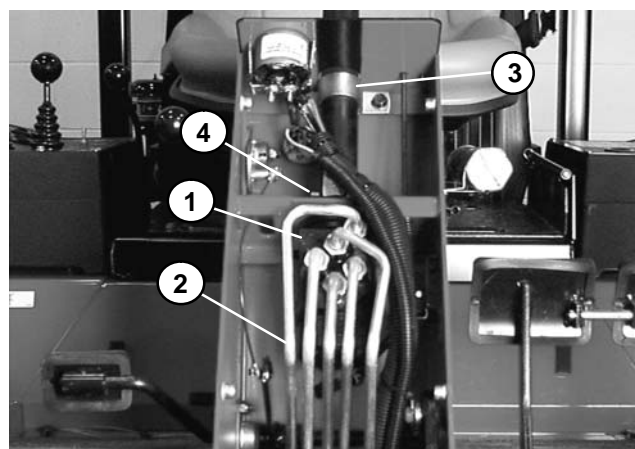

Figure 20
4. Clean outside of the steering valve and the area around the hydraulic fittings. Disconnect hydraulic lines from steering valve (Fig. 20). Put caps or plugs on all fittings and lines to prevent contamination.